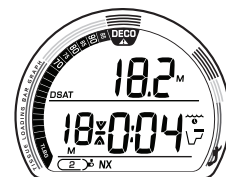

Fig. 78 - DV2 MAIN
- > Once within 10 FT (3 M) of and below the required Stop Depth, the full Stop icon (Up and Down Arrows with Stop Bar) will be displayed solid (Fig. 78).